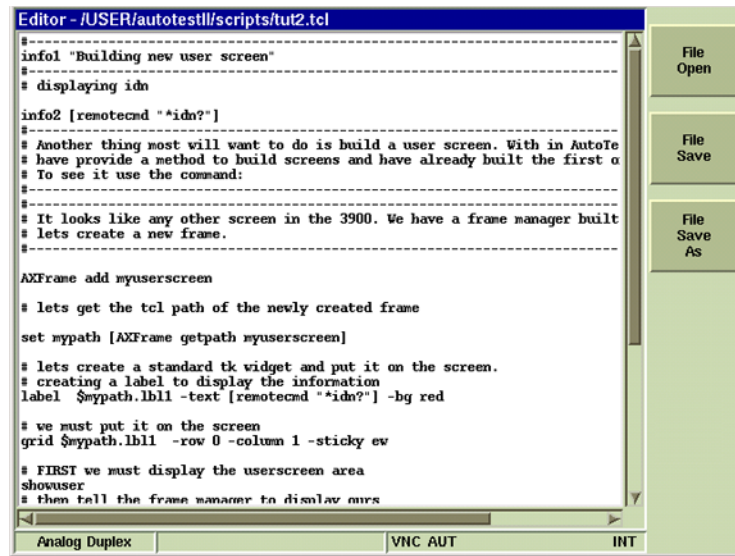

Fig. 6-7 Script File in Editor Mode
- The screen displays contents of selected file as shown in Fig. 6-7.